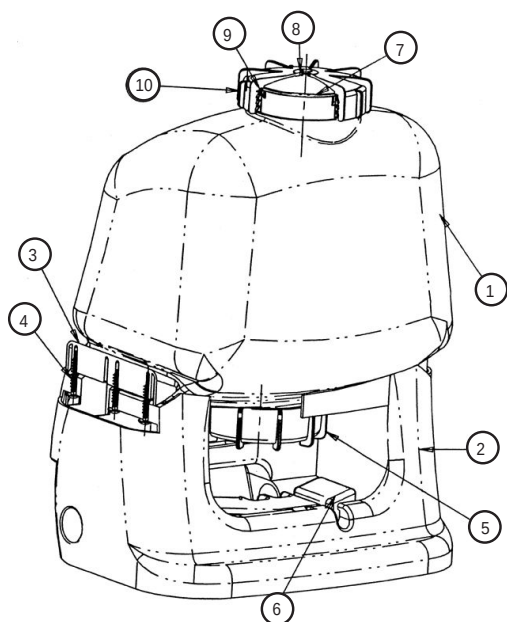

FIG. 1
2. Optional fan tip with fixed pattern replaces adjustable tip and body (fig. 6, item 68, 69, 70). Store optional fan tip assembly or adjustable nozzle tip assembly when not in use by snapping into storage slot in service panel (fig. 1, item 6).
2. Loosen cap (fig. 1, item 8) and pour out any remaining spray solution. Rinse all parts thoroughly with clean water.
1. Remove the service panel (fig. 1, item 6) by pressing on the three tabs located on the center and sides of the panel. Pull the panel out through the bottom of the base.
4. Loosen pump cap (fig. 1, item 5) by turning counterclockwise until it is free of the threads and remove through bottom of tank base.
TANK ASSEMBLY (FIG. 1)